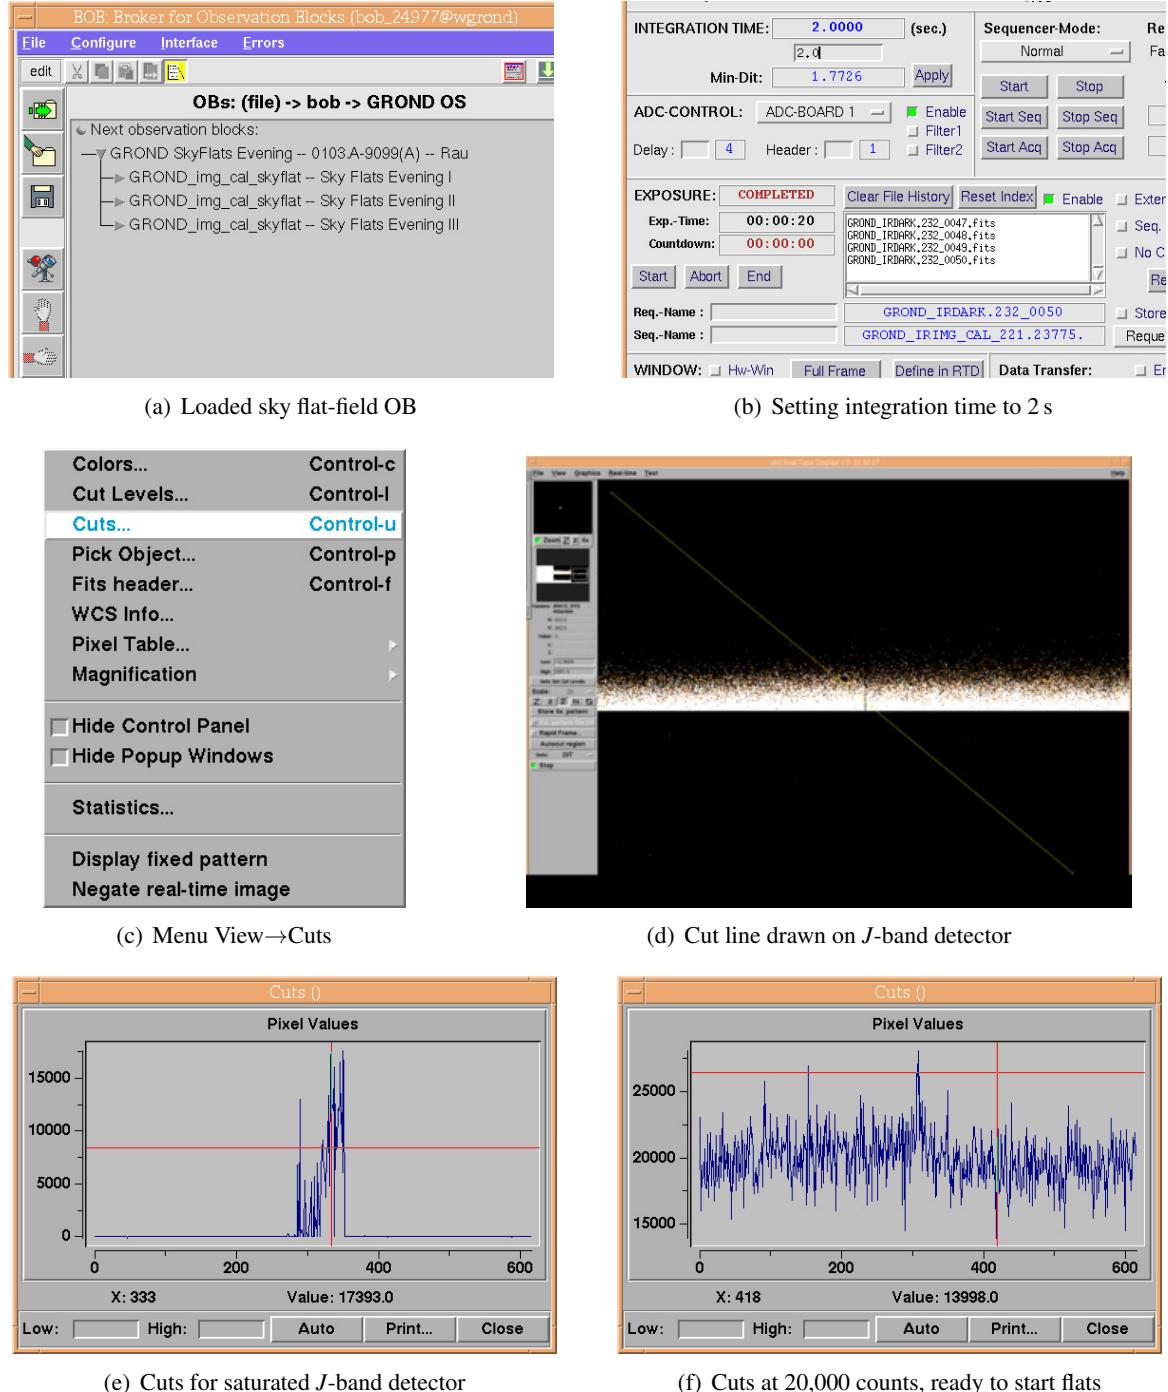

Figure 5.3: GROND evening sky flat fields.
- G. Get **sky flat fields OB** ready (Fig. 5.3(a), p. 58)
- H2. Set the IR integration time to 2 s (Fig. 5.3(b), p. 58).
- Use window menu View→Cuts..., then click OK on the pop-up (Figures 5.3(c)–5.3(d)).
- H4. Wait for the cuts to look flat and with about 20 000 counts. (Figures 5.3(e)–5.3(f))